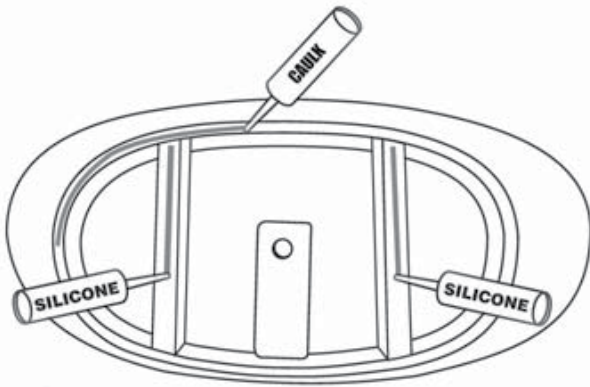

Figure 6
16. Apply a generous bead of adhesive or silicone to the bottom of the tub supports (figure 6).
17. Then apply a bead of tub and tile caulk around the edge of the base (figure 6)